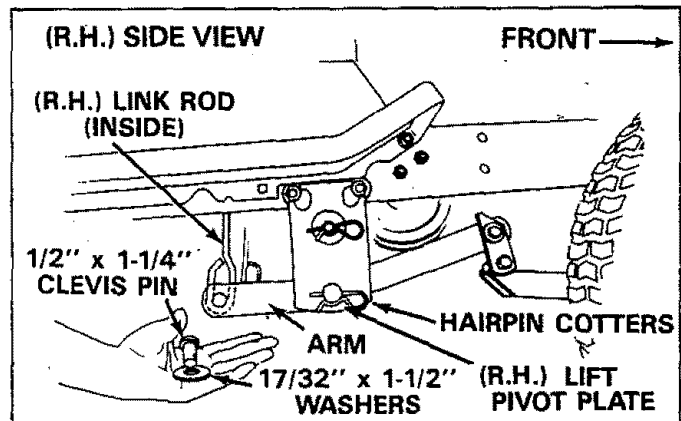

FIGURE 18
12. Move tractor lift lever to forward position. Assemble one 1/2" x 1-1/4" clevis pin from inside through one 17/32" x 1-1/2" washer, through right hand link rod, and through lift assembly arm. See figure 18. **NOTE:** Link rods must be positioned inside of lift assembly arms. Assemble 17/32" x 1-1/2" washer over clevis pin on outside and secure with a hairpin cotter. Secure lift assembly to right hand lift pivot plate with a hairpin cotter through hole in lift assembly pivot shaft on outside. See figures 18 and 19. Repeat this step on left hand side.